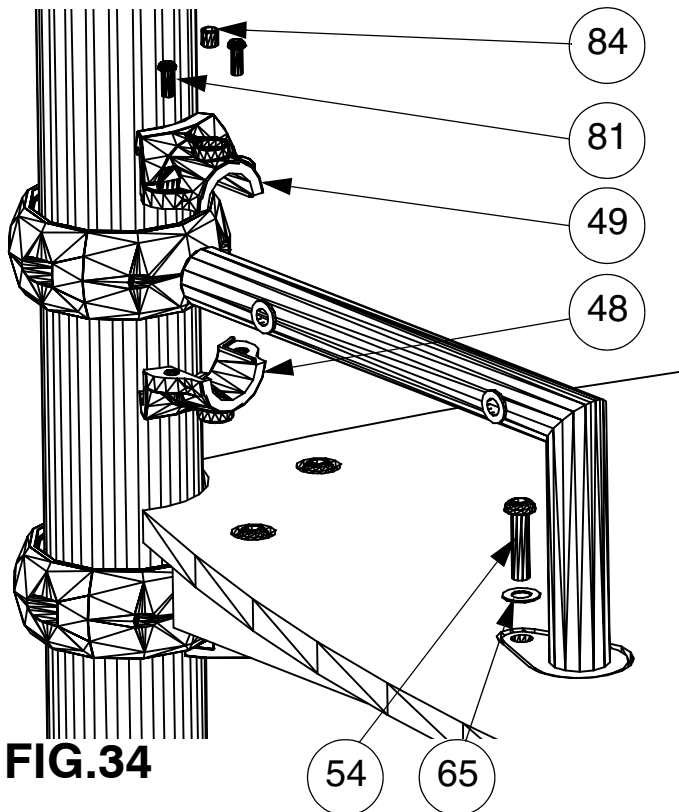

FIG.34
42) Attach 2 pairs of Panel Fixing Corners (item 14) to the Clamp Rings and also through the Deck to the Deck Frame. Each of the Panel Fixing Corners is held between a Bar Socket Top (item 49) and a Bar Socket Bottom (item 48) using 2 off BHCS Fixings (item 81) and should be fixed with the plastic panel fixing inserts on the outside of the structure. The Panel Fixing Corners are secured to the Deck Frame using 1 off M10 x 40 Resistorx bolts (item 54) and M10 washers (item 65). See FIG.34, 35 & FIG.C.